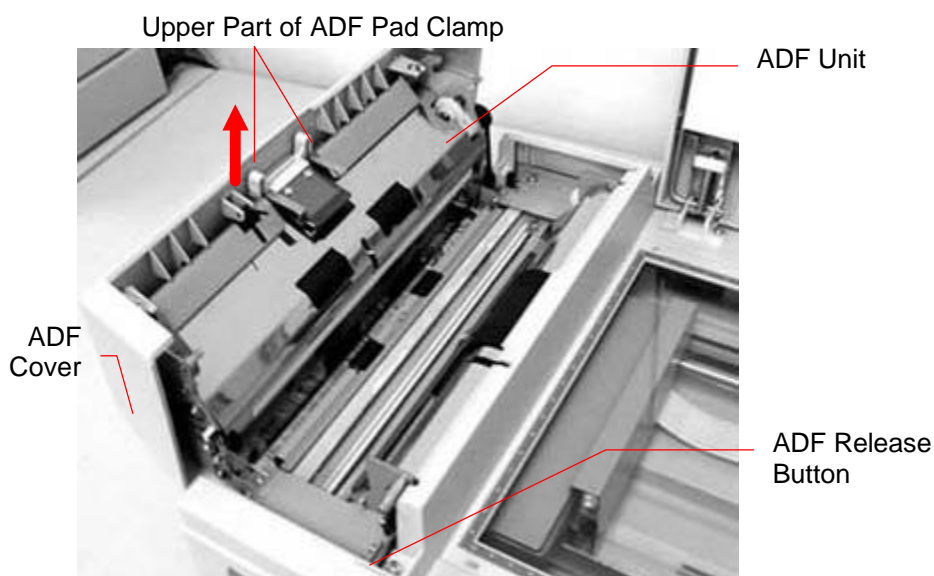

Figure 3-3 Remove the pad module
2. Remove the ADF snap-in pad module by pulling out the upper part of the pad clamp as shown in Figure 3-3.